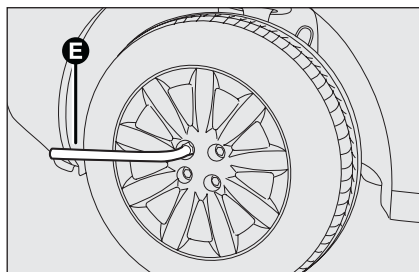

fig. 12
- ☐ loosen the bolts of the wheel to be replaced by about one turn with the wrench provided **E**-fig. 12; if the car is fitted with alloy rims, shake the car to facilitate removing the rim from the wheel hub;